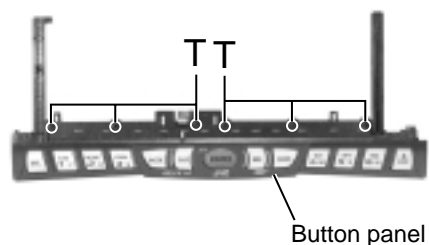

Fig.18
■ Removing the operation switch board (See Fig.18 and 19)